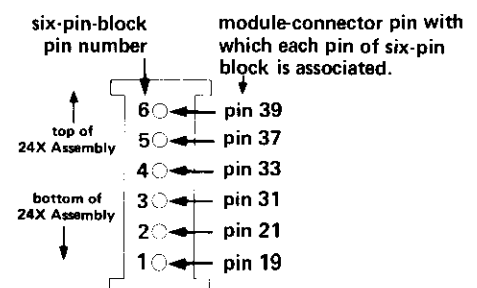

figure 1. Configuration of six-pin blocks on 24X Issue 2 Assembly backplane
2.04 The six-pin wire-wrapping blocks (see figure 1) on the 24X Assembly's backplane are used to expand existing 242, 243, or 244 Systems via jumpering to empty module positions in the same or in a different 24X Assembly. For detailed instructions on using these six-pin blocks, please refer to the Tellabs 242, 243, or 244 System Practice as appropriate.